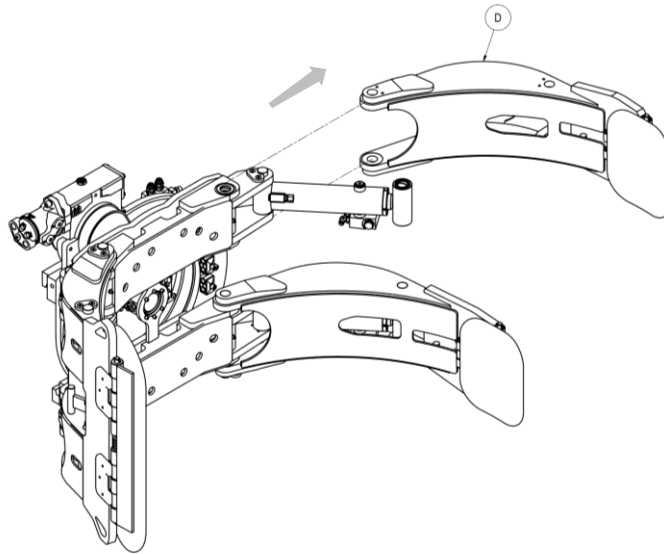

Figure 3
- Safely remove jaw “D” by means of straps and chains; also perform the operation on the other jaws Figure 3.